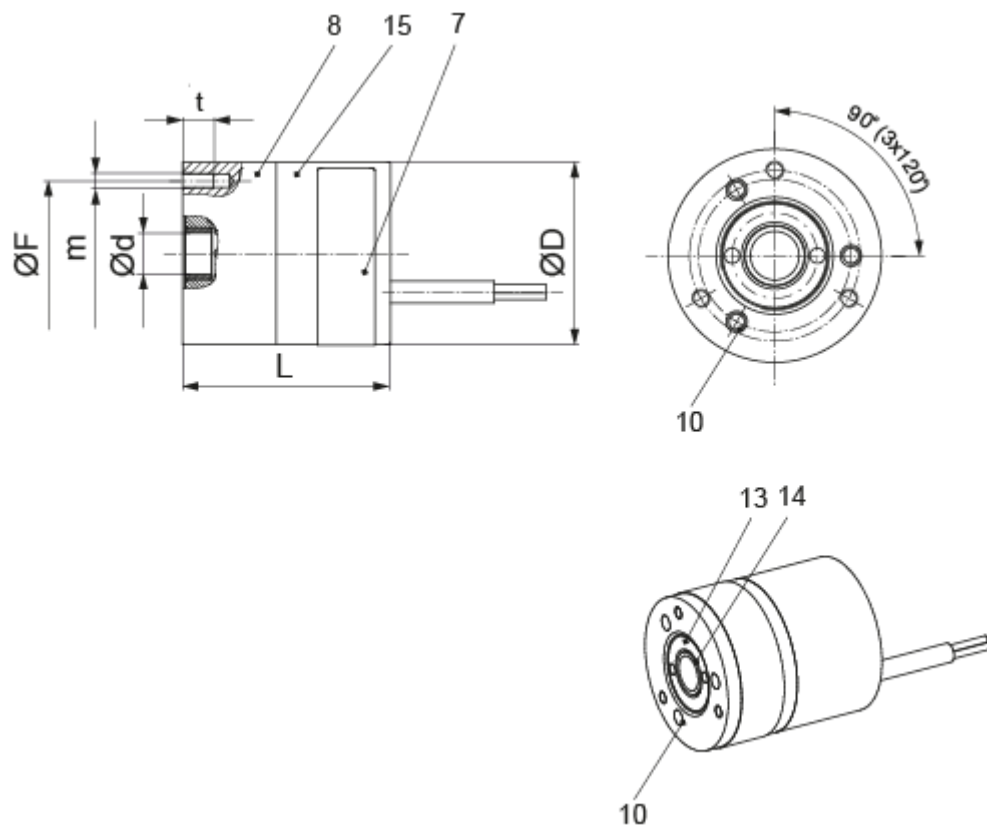

Fig. 2 (Size 10)
- ☐ The spring has an effect on the clamping element of the brake through switch-off the voltage. The piston rod is clamped (Fig. 2).